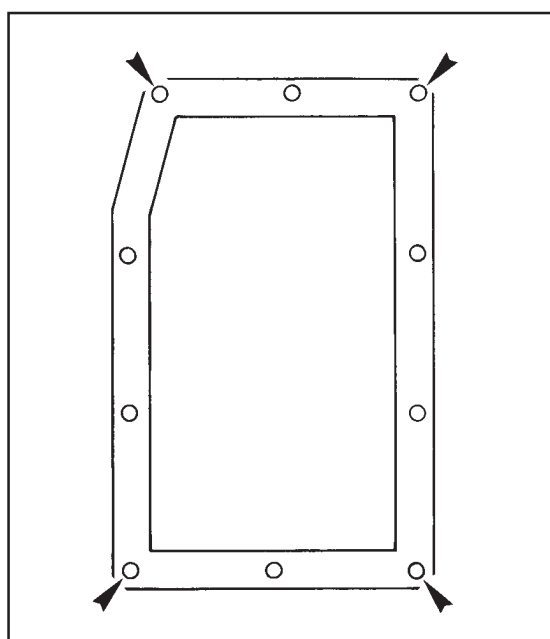

Figure 43: Mounting frame, $9/32$ inch corner holes
3. Using intercooler outlet closing assembly (VH 10632040) as a template, drill mounting frame corner holes in flitch panel out to $9/32$ inch diameter (see Figure 43).